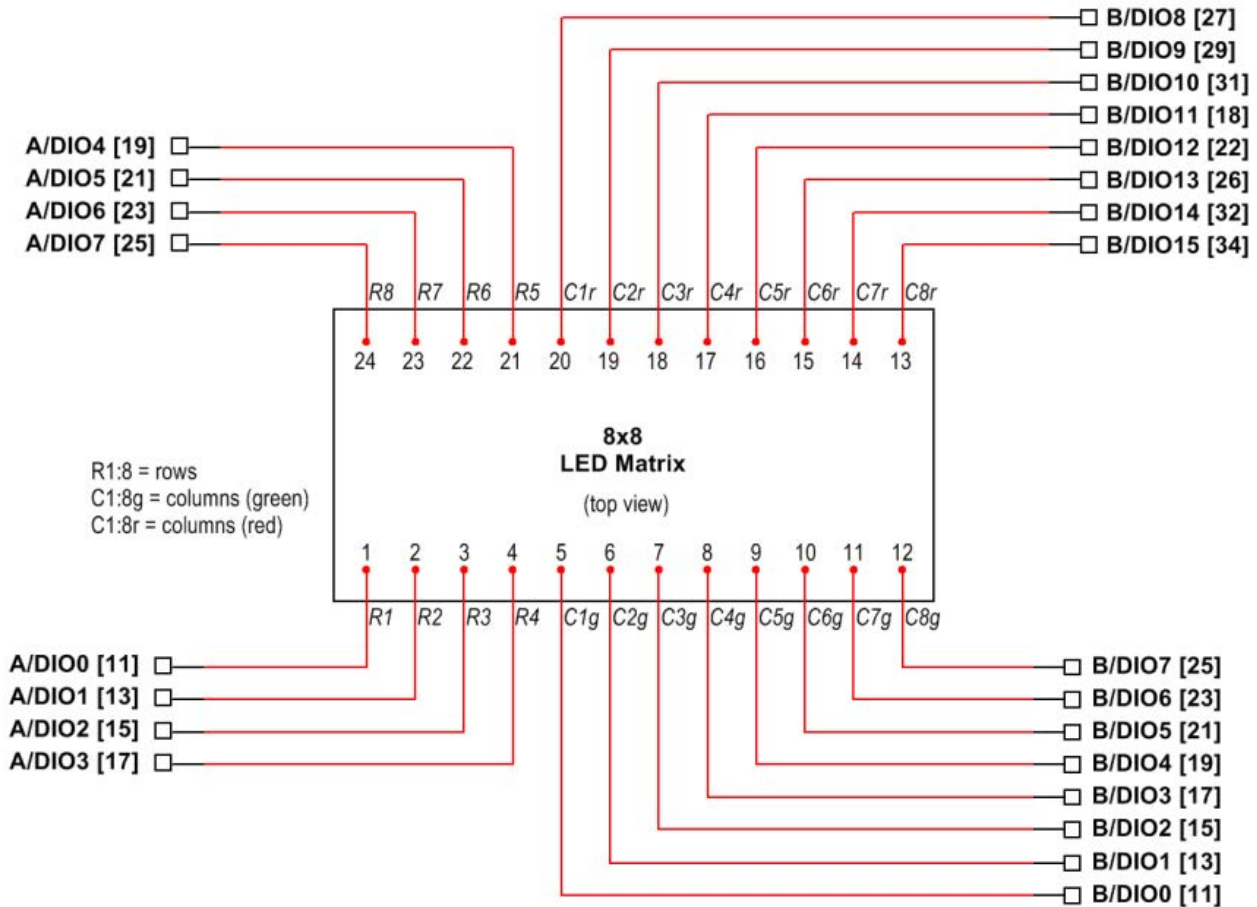
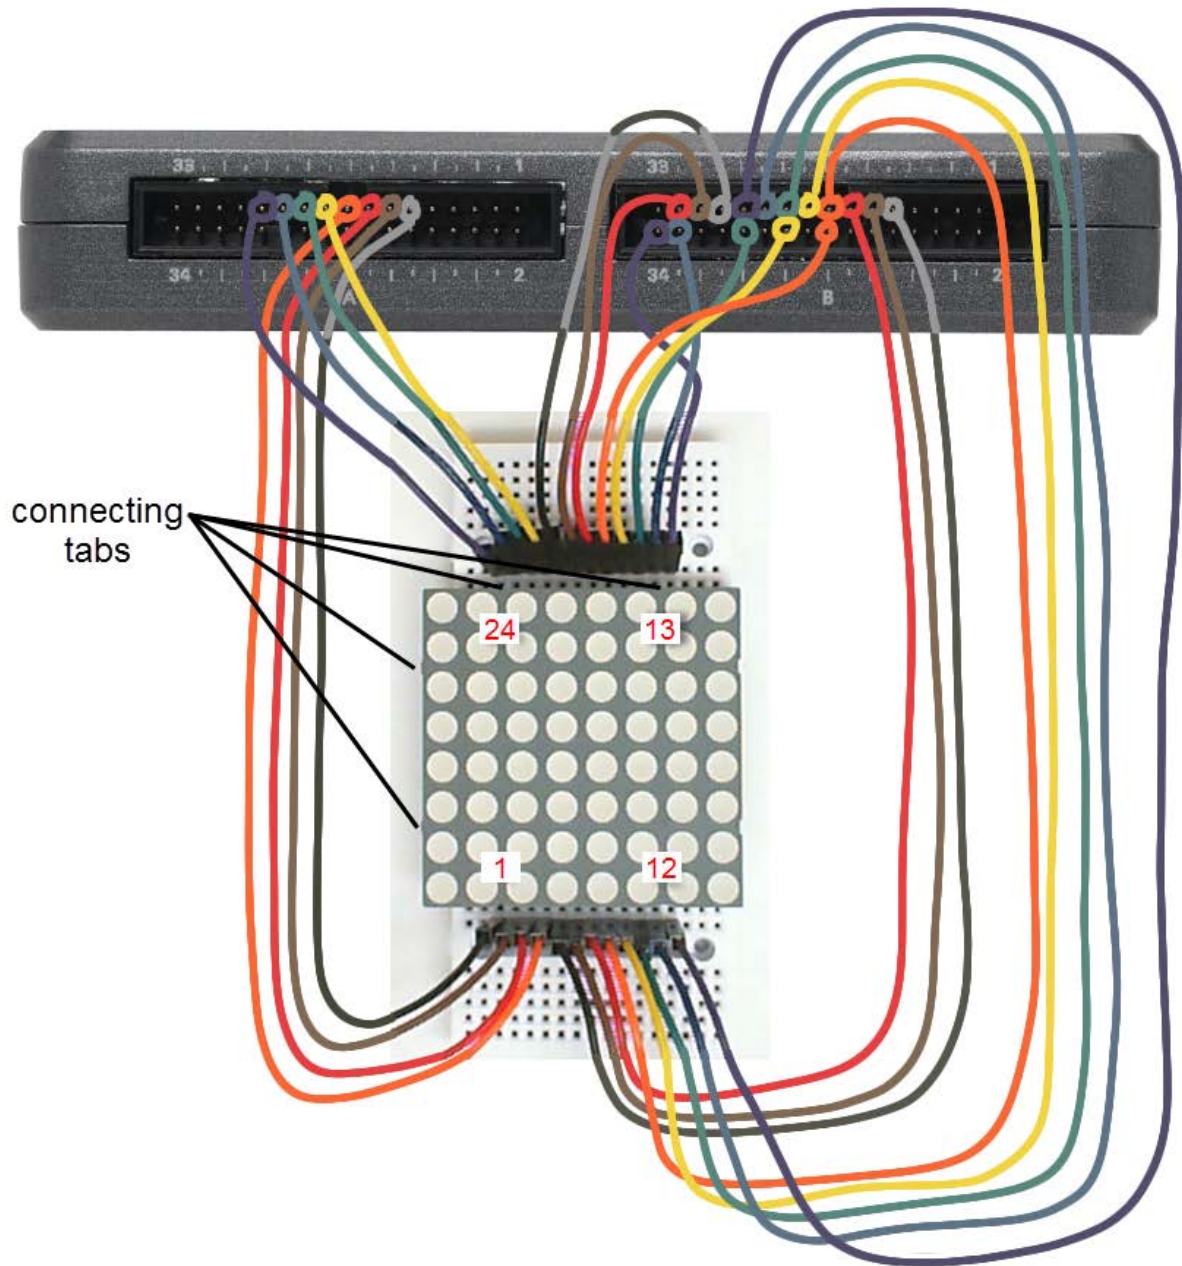

Figure 29.2: Demonstration circuit for LED matrix: pin diagram and connection to 24 digital I/O terminals on NI myRIO MXP Connectors A and B.
Figure 29.3: Demonstration circuit for LED matrix: recommended breadboard layout.
**Build the interface circuit:** Refer to the pin diagram shown in Figure 29.2 on page 131 and recommended breadboard layout shown in Figure 29.3 on page 132.
**TIP:** Use the resistor color code for the DIO wire colors, e.g., black (0) for B/DIO0, brown (1) for B/DIO1, and so on.